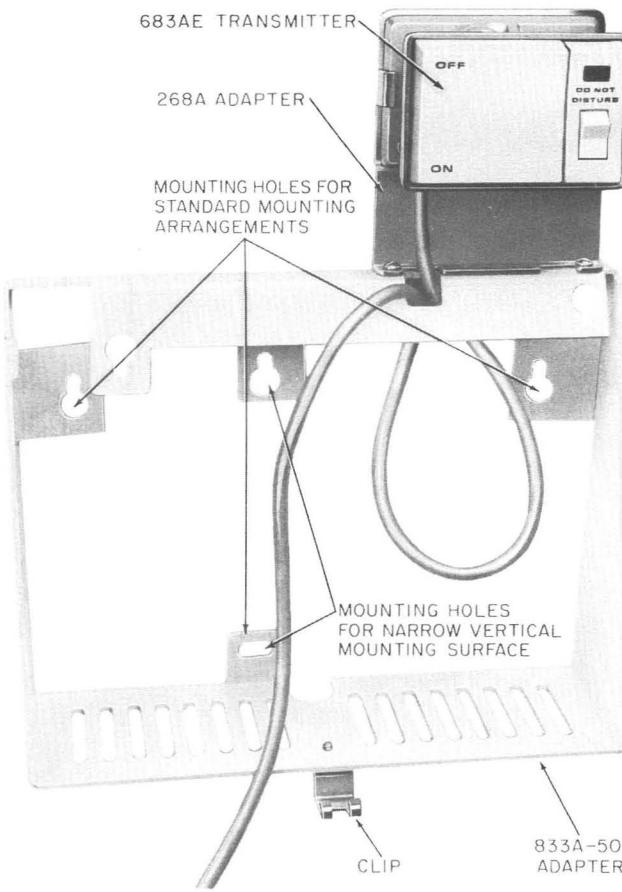

Fig. 5—833A-50 Adapter With 268A Adapter and 683AE Transmitter
3.02 All DM and EM (wall type) sets are shipped with an 833A-50 adapter, screw, and clip (Fig. 5) which are used for mounting the telephone set to a vertical surface. Install the 833A-50 adapter and telephone set as follows.
- (4) Secure the telephone set base with the clip and screws at the bottom of the adapter (Fig. 5).
- (5) Install the telephone set options (see paragraph 3.05).
- (6) Replace housing and faceplate.
(a) Mount 268A adapter onto 833A-50 adapter with two screws as shown on Fig. 5 with the tabs of the 268A adapter facing outward from the vertical surface. The 683AE-50 transmitter is secured by sliding the transmitter downward between the tabs on the adapter. The telephone set end of the transmitter cord enters the telephone set and is attached to the telephone set
- (4) Also included with the 683AE transmitter (furnished with the HFAI feature) is a manual DO-NOT-DISTURB switch. Depression of the switch (Fig. 5) prevents voice signaling, alerting tone, and activation of the microphone. A distinctive tone is sent to any station that is calling another station on **dial intercom** when the called station does not want to be disturbed. The only signal that can be received by a station or answering position with the DO-NOT-DISTURB switch activated are tone ringing and the alerting tone and one way voice signaling associated with an **automatic signaling intercom**.